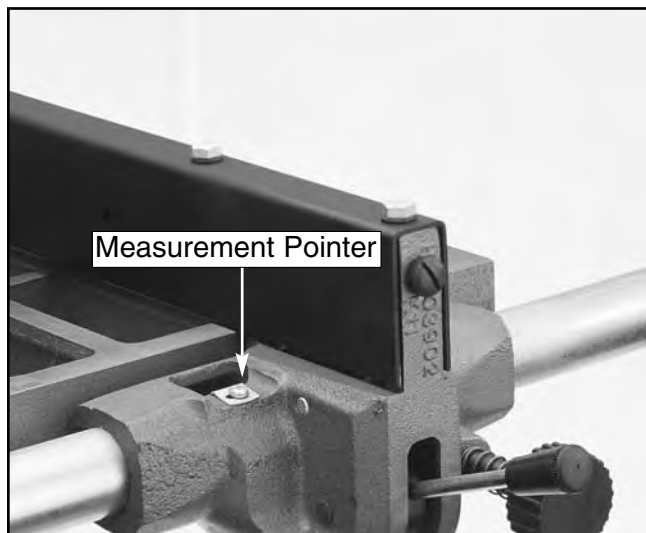

Figure 36. Adjust measurement pointer.
7. Once the fence is adjusted, check the measurement pointer shown in **Figure 36** and adjust if necessary.